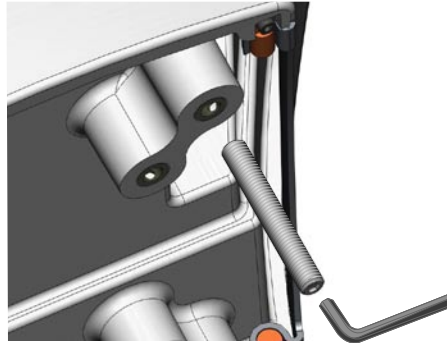

Figure 2
2. Using a 5 mm Allen wrench, install the M10 x 71 mounting studs (Figure 2) in the pedestal matching the hole pattern that was selected. Tighten the mounting studs until they bottom out in the pedestal. **DO NOT** overtighten the studs because this may cause damage to the pedestal. The mounting studs have a thread locking patch applied at the factory.